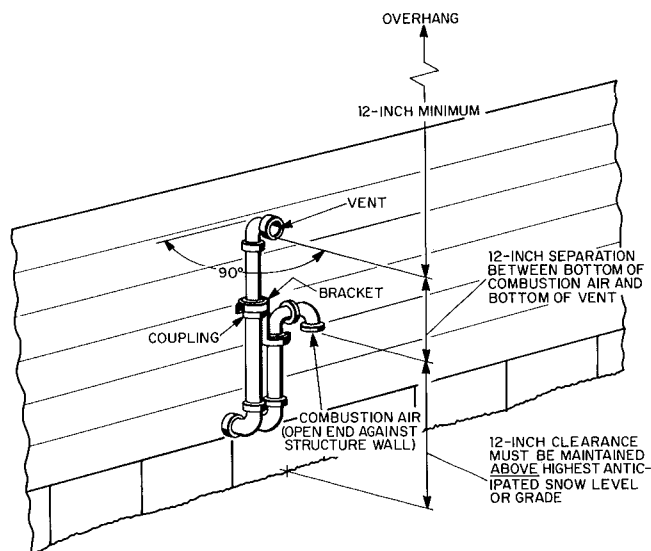
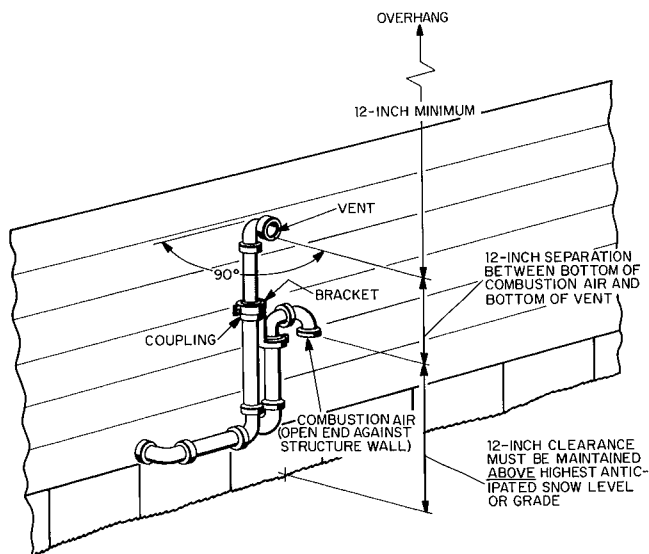

Fig. 6 — Sidewall Termination Below Snow Level or Too Close to Grade (Preferred)
Fig. 7 — Sidewall Termination Below Snow Level or Too Close to Grade (Option)
Install kit as follows when combustion-air and vent pipes exit through sidewall less than 12 in. above highest anticipated snow level or grade. See Fig. 6 and 7.
NOTE: The arrangement in Fig. 6 is preferred. The arrangement in Fig. 7 is an option for the vent pipe only.
4. Loosely install U-fitting and bracket as shown in Fig. 6. Position U-fitting so that open end is against building wall.
- Loosely install vent-pipe assembly in coupling as shown in Fig. 6 or 7.
- Check required dimensions as shown in Fig. 6 or 7.
- Install bracket as shown in Fig. 6 or 7.